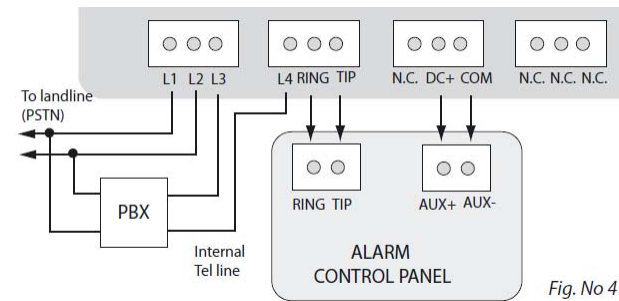

Fig. No 4
1. Connect the circuit as shown in Fig. No.4 – connect telephone input of the Alarm Control Panel RING/TIP to RING/TIP connectors of communicator WT-1010GPRS.